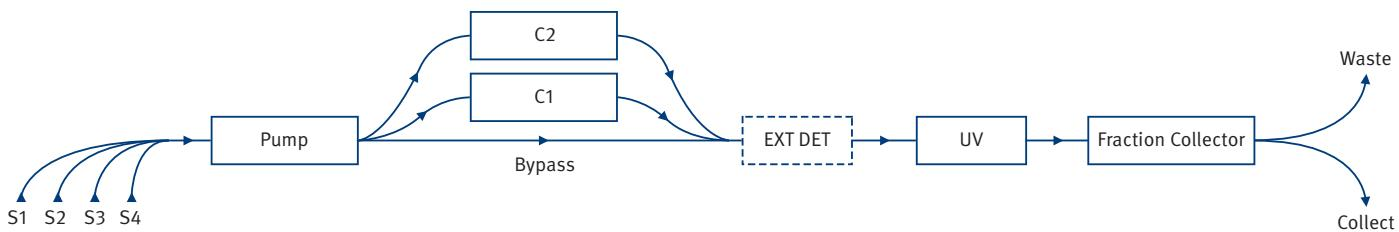

Figure 28. The flow paths in the system.
1. Select the path to be flushed from the **Path** drop-down menu. To flush the flow path except column channel, select the bypass option. To flush a column channel, select a channel option. See a schematic of the flow paths in Figure 28.